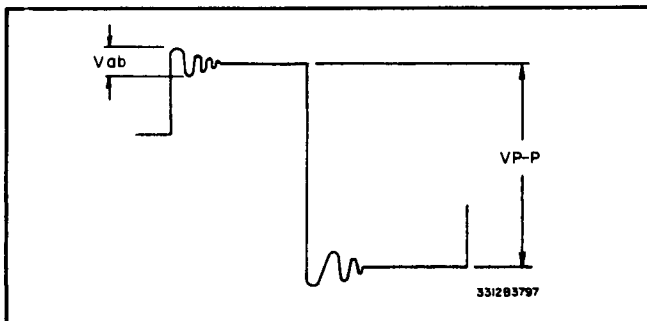

Figure 5-2. Aberration Test.
- c. Measure the p-p voltage ( $V_{p-p}$ ). See Figure 5-2.